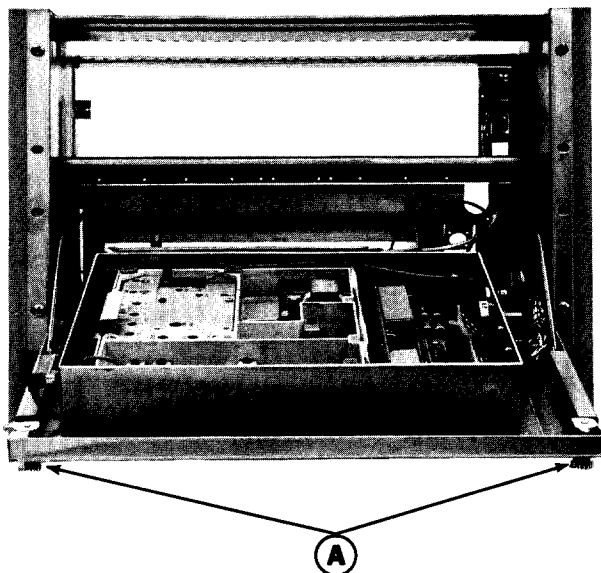

Figure 4 - Access to Exciter Front View
1. Turn the two latching knobs (A) counter-clockwise to unlatch the Radio Panel Front Door. Refer to Figure 4.